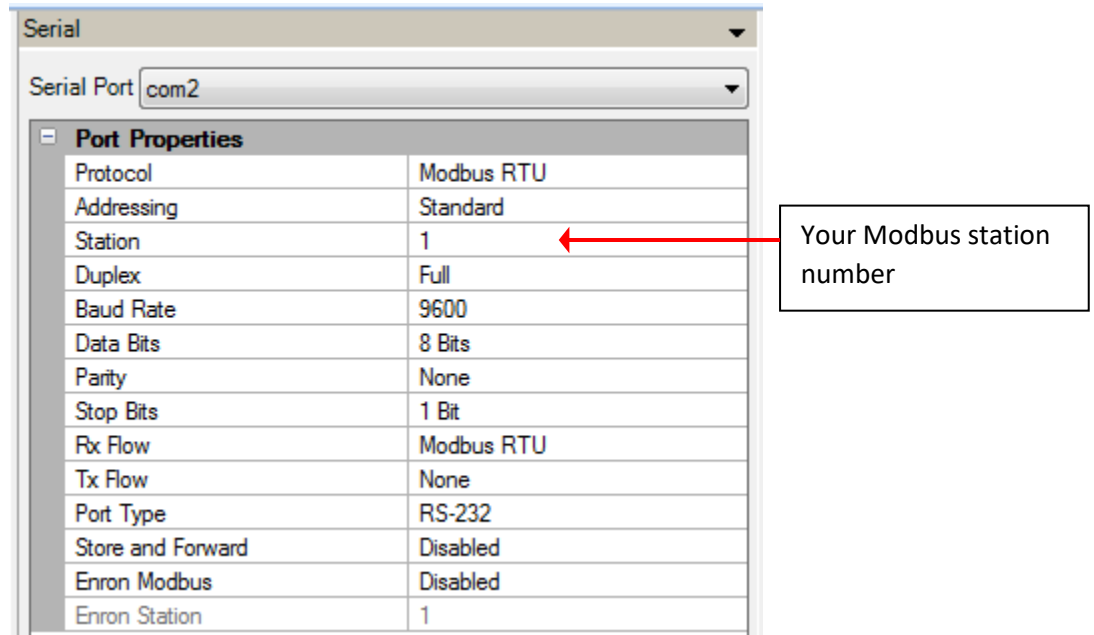

Figure 58: Controller Serial Port Settings
- Set the COM2 parameters as shown in Figure 58.